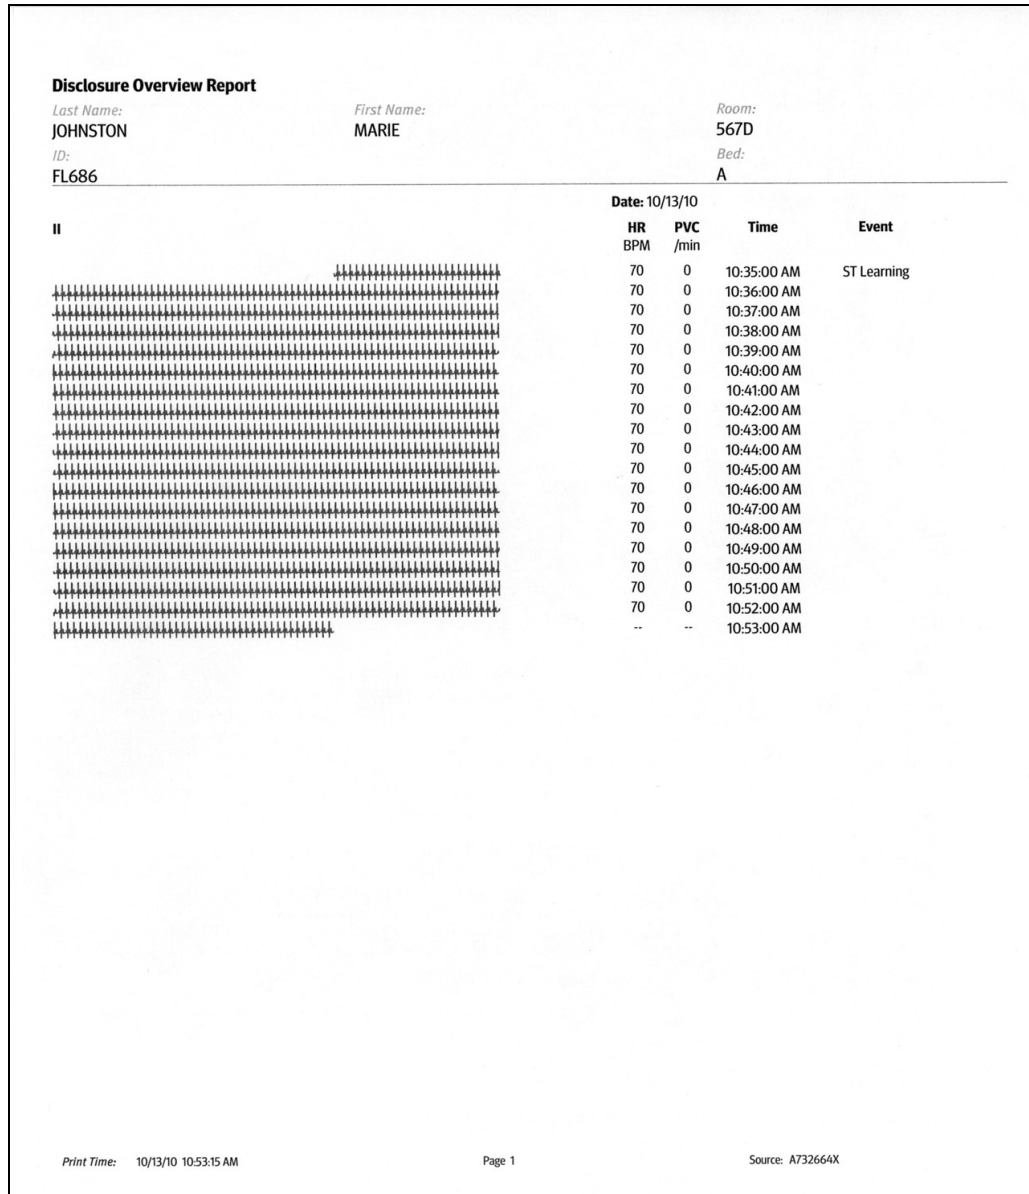

FIGURE 19-10 Example Disclosure Overview Report (Laser Printer Output)
The Disclosure Overview Report (as shown in FIGURE 19-10) prints a maximum of 60 minutes of compressed ECG data on each page. Each waveform is one (1) minute in length. The heart rate prints the averaged heart rate for the last second of the strip at the end of the strip. This report includes a header, disclosure data, and a footer.